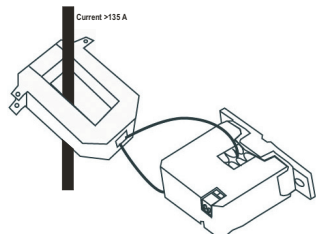

Figure 4: CTC with CT Transformer
Use a 5 A Current Transformer (CT) to reduce the current passing through the CTC as shown in Figure 4. Run the current transformer secondary wire through the sensing hole. Terminate the 2 secondary wires of the 5 A current transformer to each other, and then install the 5 A current transformer on the monitored conductor. Set the CTC for lowest amperage range (20 or 30 A)